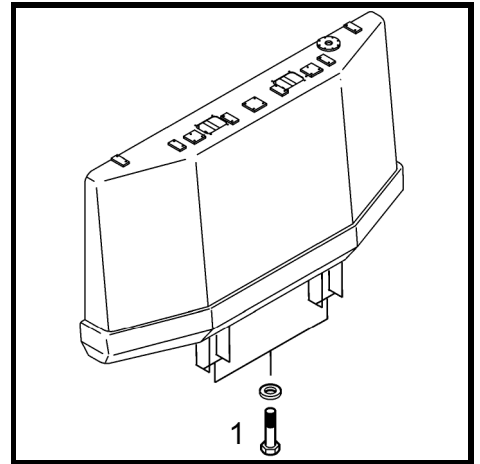

Fig. 48
The eight mounting bolts M42 (Fig. 48, pos. 1) must be torqued to 5400 Nm (3982 ft.lbs).